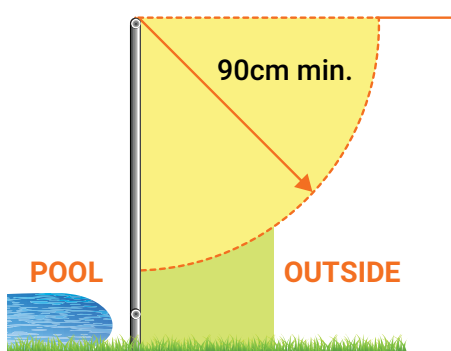

Figure 3 – climbable surfaces, outside the pool area, located at least 90cm away from the top of the fence.
b. Are climbable surfaces, outside the pool area, located at least 90cm away from the top of the fence? (see Figure 3)	☐